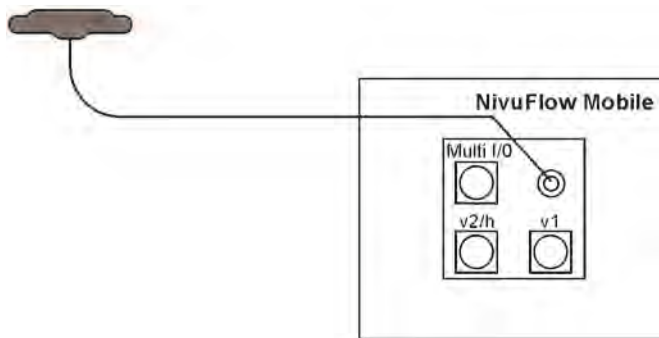

Fig. 28-1 Connection GPRS antenna
1. Plug antenna cable into the socket on the unit (Fig. 28-1) and tighten the screw joint manually.